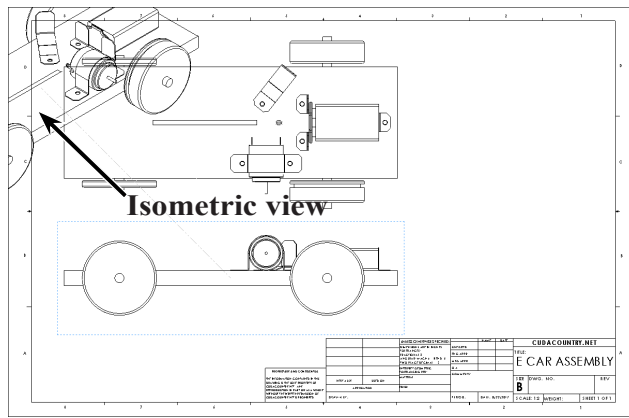

Fig. 4
Step 7. Move the cursor to the top left corner of the drawing and click to place Isometric view, **Fig. 4**.
Step 9. Click Isometric view to select, **Fig. 4**.